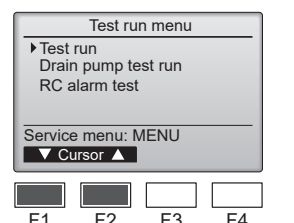

Fig. 8-2
- ② Select "Test run" from the Test run menu, and press the [SELECT/HOLD] button. (Fig. 8-2)
- ③ The test run operation starts, and the Test run operation screen is displayed.